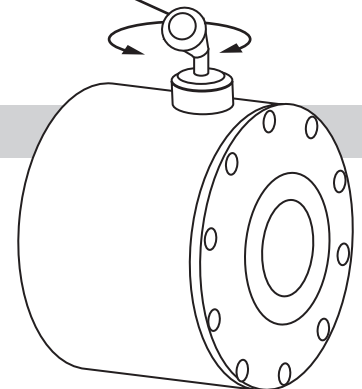

FIGURE 7
Turn clutch handle to the disengage position shown on decal (FIGURE 7). NEVER RELEASE FREE-SPOOL CLUTCH WHEN THERE IS A LOAD ON THE WINCH. DO NOT FORCE THE HANDLE. Release tension on the clutch by winching out some of the wire rope. Release the clutch and pull out the wire rope and secure to anchor or load. Check that there are at least five (5) wraps of wire rope left on the drum. Re-engage the drum by returning the clutch handle to the engaged position. (FIGURE 7)
Step 6 Turn the freespool clutch handle to the Disengage position (See FIGURE 7). Pull 5 feet of wire rope off the drum. Return the freespool clutch handle back to Engaged position. Activate the Winch cable in and out by momentarily pressing the hand held switch to check drum rotation direction. The switch is labeled "IN" for winching in and "OUT" for winching out. When released the switch will automatically go to the off position. **IF THIS DOES NOT OCCUR THEN TAKE THE PLUG OFF THE RECEPTACLE.**